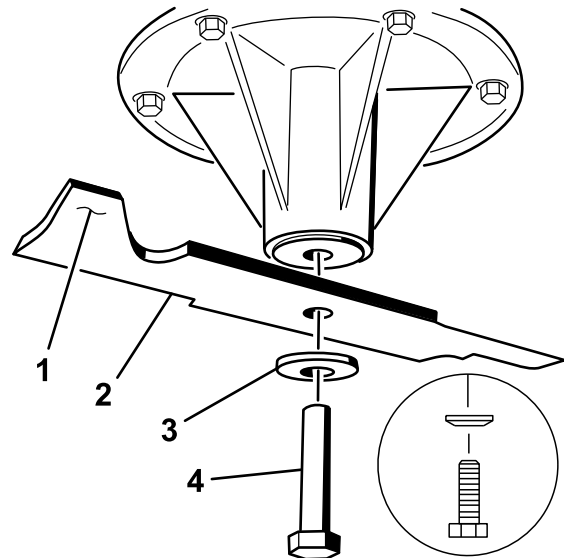

Figure 83
2. Remove the blade bolt, curved washer, and blade from the spindle shaft (Figure 83).
- If the blade is not balanced, file some metal off the end of the sail area only (Figure 83).